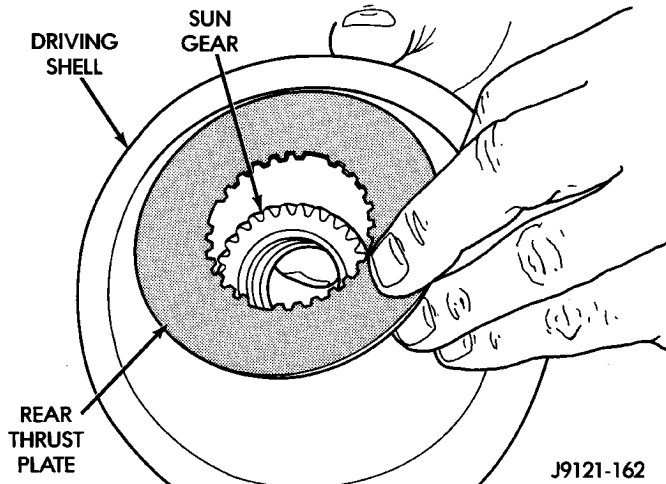

Fig. 174 Installing Driving Shell Rear Thrust Plate
(9) Hold sun gear in place and install thrust plate over sun gear at rear of driving shell (Fig. 174).